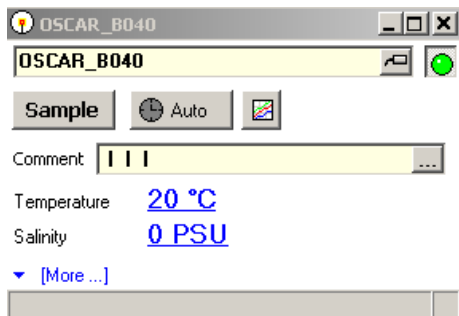

Fig. 28. OSCAR control window
- Press [More ...] in the appearing window to open the advanced settings (Fig. 28).